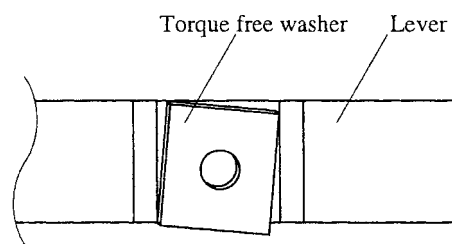

Fig. 14-2
- (d) Tighten the upper screw with the torque free washer touching the end surface of the lever to prevent the spring from rotating together. (Torque 20 kg•cm) (See Fig. 14-2)